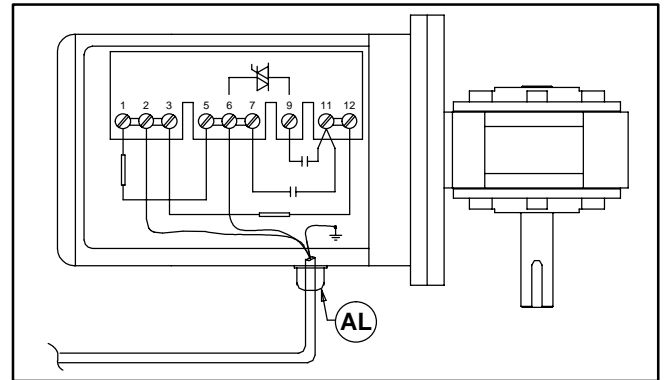

Figure 21
- Record wire colors on terminals 2, 6 and ground ( $\perp$ ) (Figure 21). Loosen terminals 2, 6 and ground and remove wires.
- Loosen cord grip (AL of Figure 21) and remove cord.